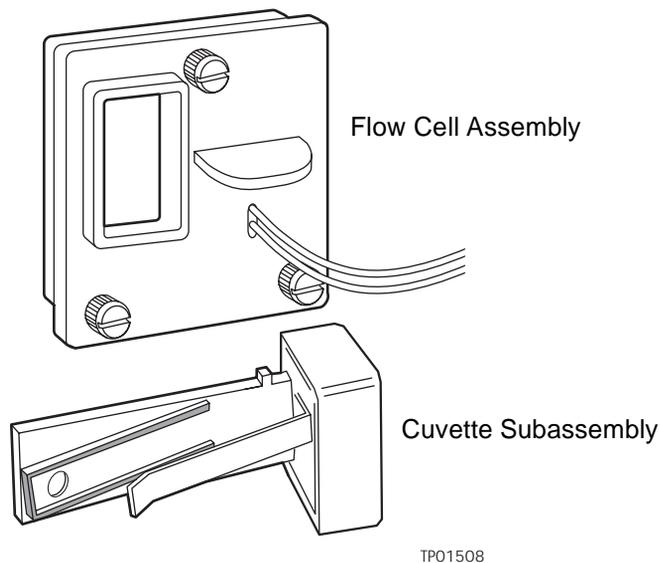

Figure 4-4 2487 Detector Flow Cell Assembly with the Cuvette Subassembly Removed
- Once the flow cell assembly is removed from the 2487 Detector chassis, remove the cuvette holder from the flow cell assembly (Figure 4-4).